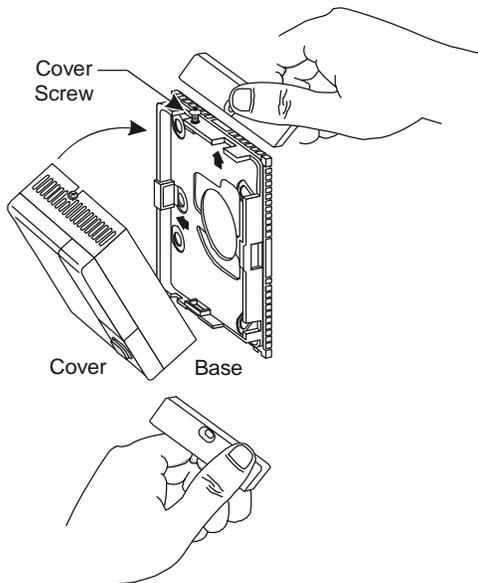

Figure 4: Removing the Breakaway Tabs
1. Bend the top and bottom edges of the mounting base at the perforations until they break off. (See Figure 4.)